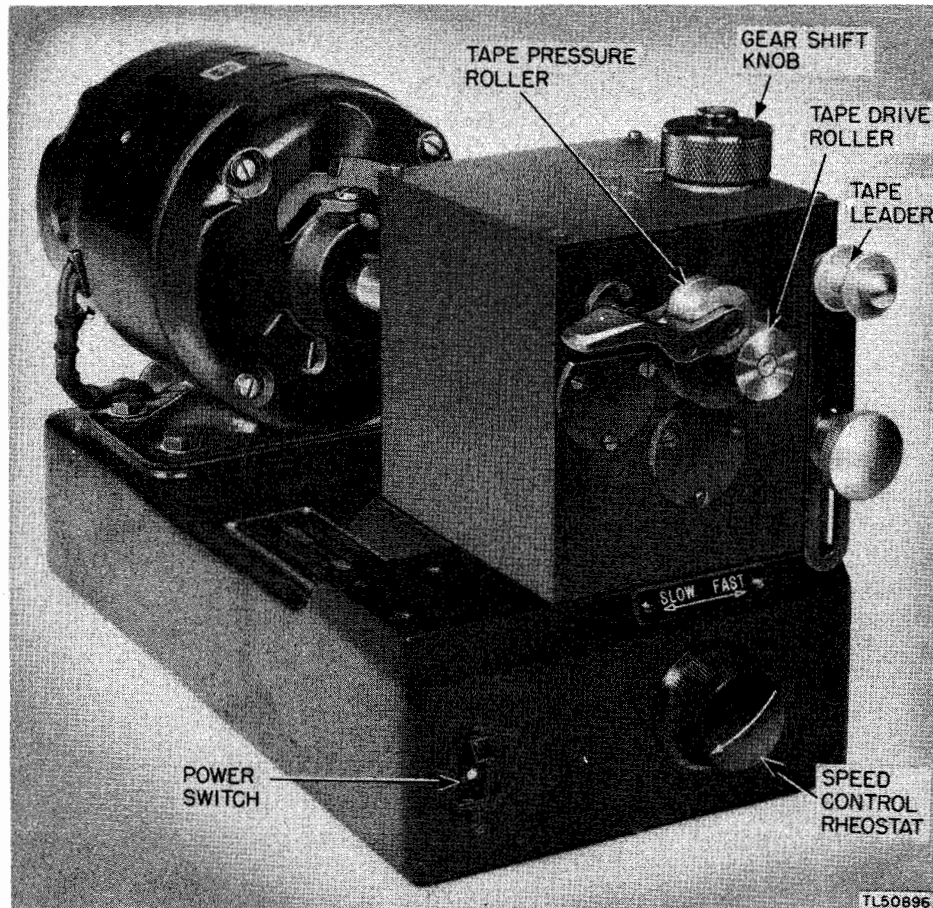

Figure 49. Tape puller, type 4-F, front view.
a. The tape puller, type 4-F, series E (fig. 49), is used to pull the  $\frac{3}{8}$ -inch wide paper recording tape through the ink recorder or across the tape bridge, type 4-K (par. 90). A three-position gear shift and a motor-speed-control rheostat permit operation over a wide speed range.
The tape puller (fig. 49) is a self-contained unit operat-